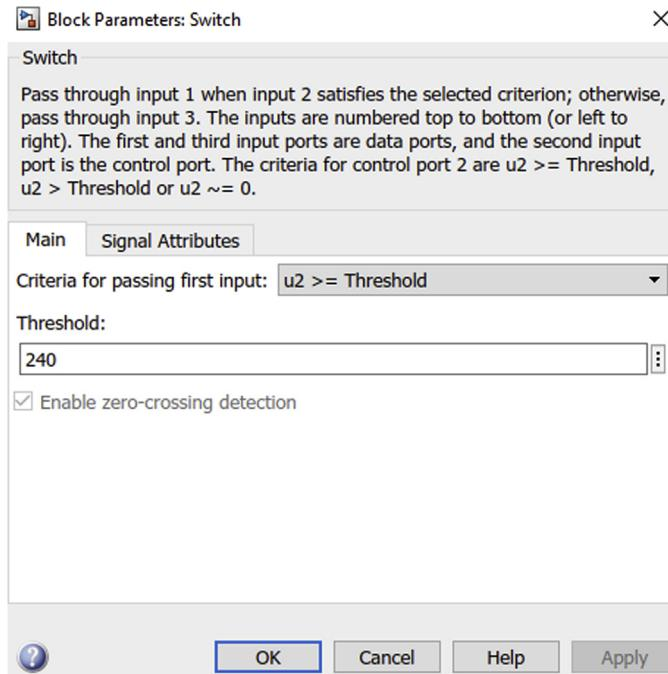

Figure 10.26 Switch threshold for second If action subsystem.
- Double click on the **Switch** block and set the $u2 >= \text{Threshold}$ as 240 as shown in Fig. 10.26. This will ensure that the piecewise function is followed until motor speed reaches 240 RPM.